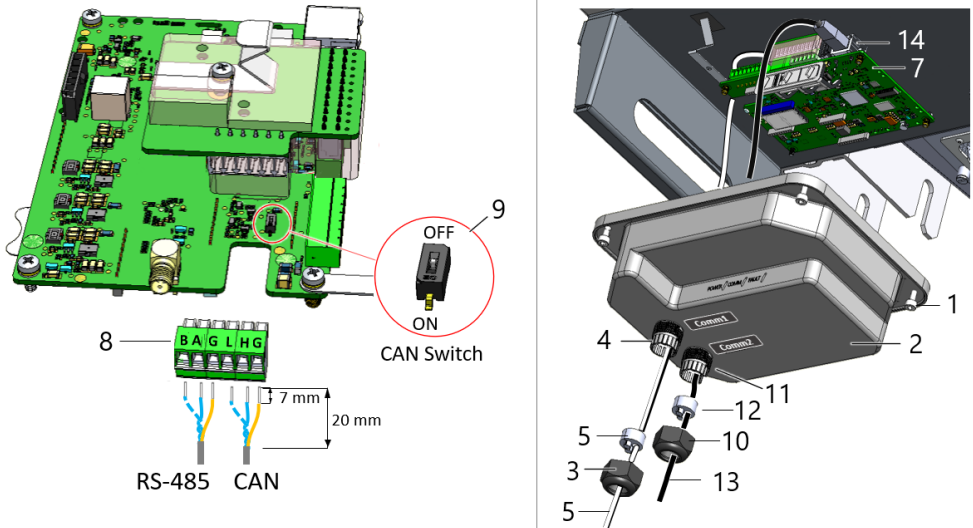

Figure 30: Connecting the communication cables
Make sure the CAN Switch (see item 9 in *Figure 30*) is set to ON position on the first and last inverters on the CAN bus.
4. Release the four Allen screws (1) of the communication compartment cover (2) and remove the cover (see *Figure 30*).
5. Loosen the nut (3) of Comm 1 gland (4) and remove the rubber seal (5).
6. Route the communication cable (6) via one of openings in the rubber seal, through the gland and communication compartment cover (2).
7. Pull down to remove the communication board (7) from the enclosure.
9. Secure the wires to the terminal screws of the connector (8) and plug the connector to the communication board (7). Connect the other end of the cable to the same terminals of the next inverter.
10. Terminate the first and last inverters on the communication bus by moving the CAN Switch (9) to ON. All other inverters on the bus must be switched to OFF. Make sure the resistance between H and L is 120Ω.
11. Install the communication board (7) back onto the enclosure.
12. Place the communication compartment cover (2) and secure the four Allen screws (1) to a torque of 3.9 N*m (see Figure 30).
13. Place the rubber seal (4) inside the gland nut (3) of Comm1 gland (13) and fasten the nut to a torque of 5.5 N*m.
1. Loosen the nut (10) of Comm2 gland (11) and remove the rubber seal (12) from within (see Figure 30).
2. Route the Ethernet cable (13) through one of openings in the rubber seal, and through the gland, into the enclosure.
4. Plug the Ethernet cable (13) into the LAN port (14).
5. Attach the communication board (7) to the enclosure.
6. Insert the rubber seal (12) into the Comm2 gland (11) and tighten the nut to 5.5 N*m.
7. Place the communication compartment cover (2) and secure the four Allen screws (1) to a torque of 3.9 N*m.